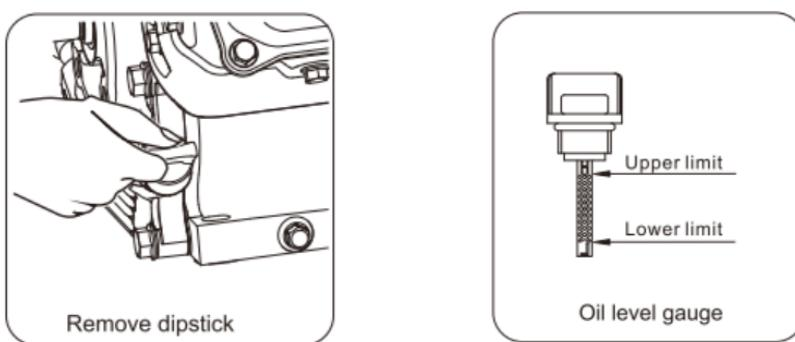

Figure 7
3. Add oil slowly as to not overflow the unit. (Figure 7)